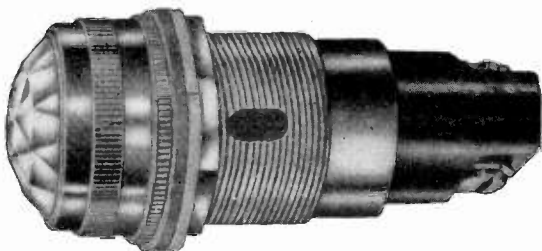

FIG. 5
- 51901-431 Screw cap, Faceted lens (Fig. 5) Screw terminals (Fig. 8)
- 513202-111 Screw cap, Faceted lens (Fig. 5) Screw terminals (Fig. 10)